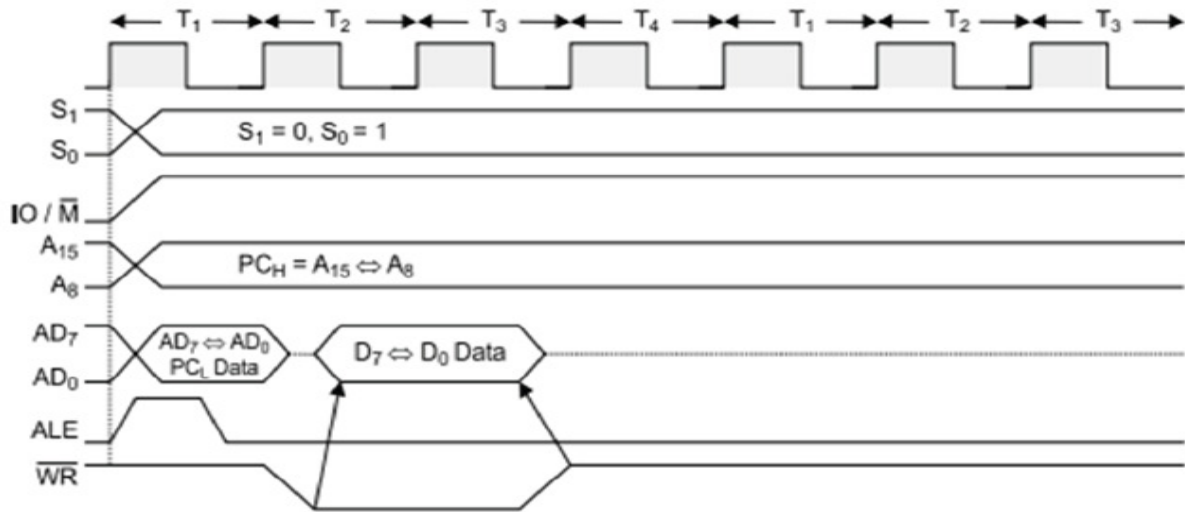

Fig 14. IO Write timing diagram
- During T₁, the lower byte of address is duplicated into higher order address bus A₈-A₁₅ as in fig 14.